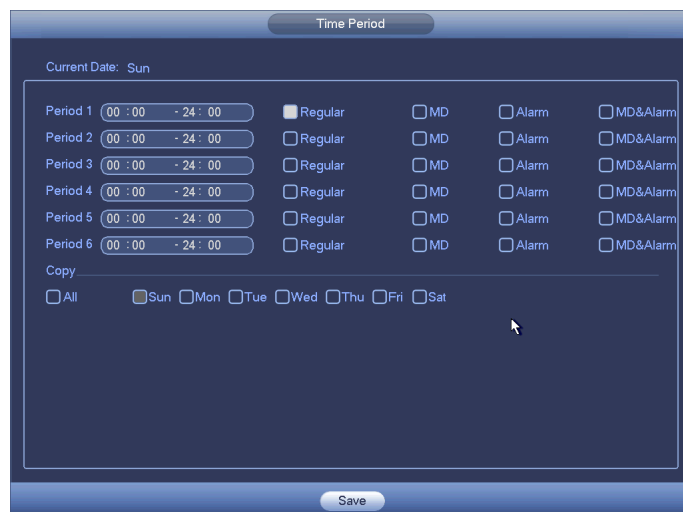

Figure 4-43
- Period setup: Click button  after one date or a holiday, you can see an interface shown as in Figure 4-43. There are five record types: regular, motion detection (MD), Alarm, MD & alarm and intelligent.